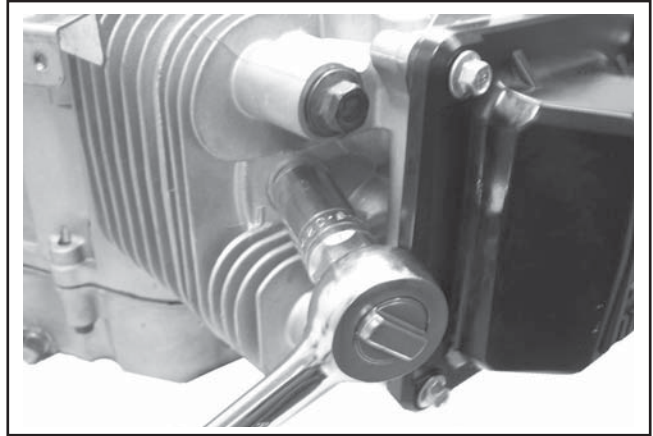

Figure 8-25. Removing Spark Plug.
1. Remove the spark plug from each cylinder head. See Figure 8-25.